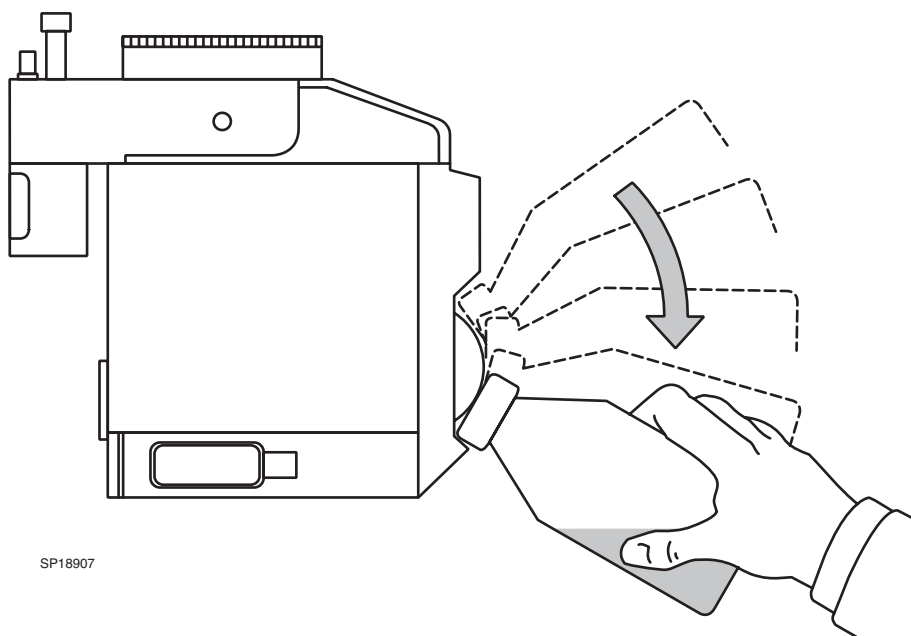

FIGURE 7. Stopping the Fill
5.8 Grip the bottle firmly and lower it from the upper stop position to the lower stop position as shown in Figure 7.